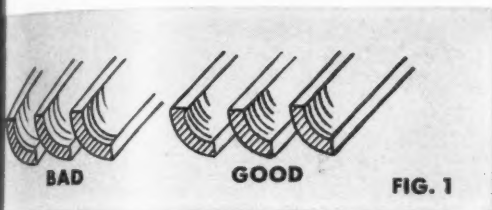

FIG. 1
2. In forming grill sections, etc., avoid passing two mold sections so close as to require a vertical cutoff. (Fig. 1)